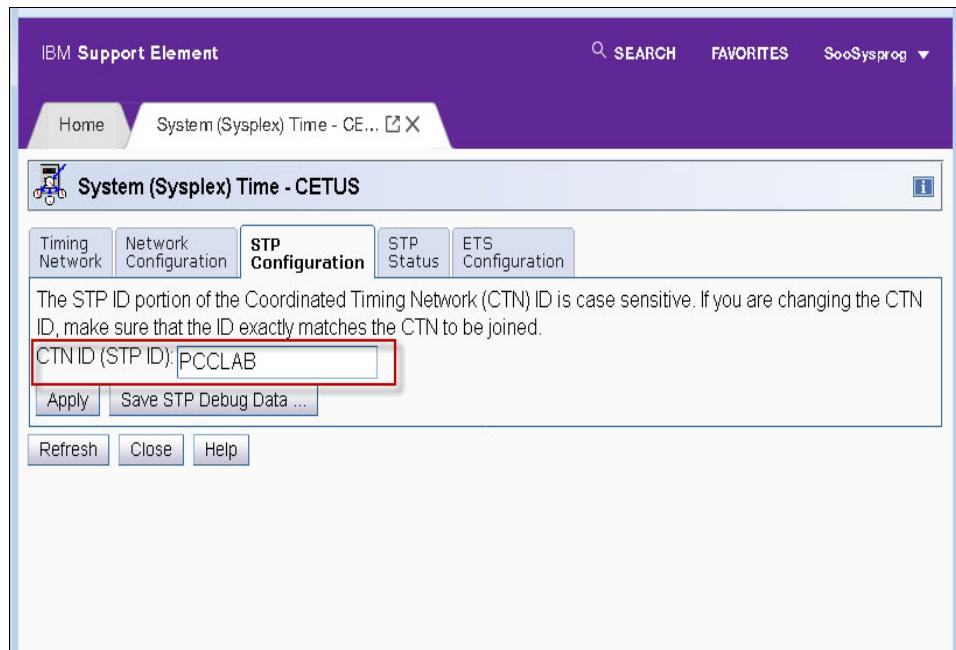

Figure 5-42 System (Sysplex) Time: STP Configuration
15. Click the STP Configuration tab to display or set the CTN ID (STP ID) (Figure 5-42).